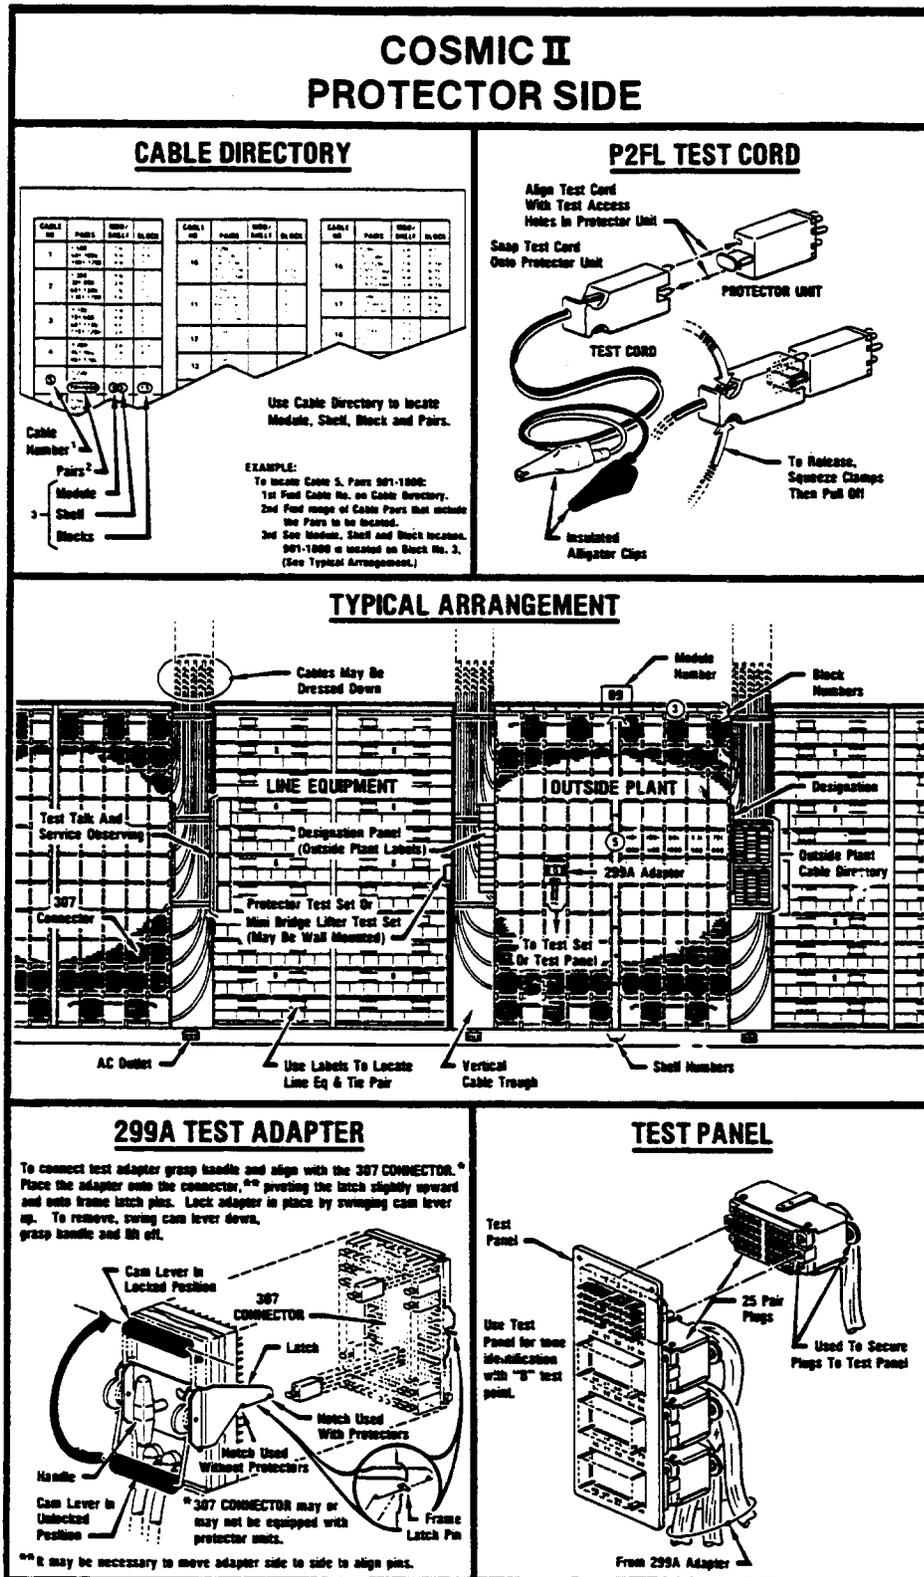

Figure 17—Frame Operations Decal — Protector Side
2.18 Protector Side for COSMIC II and IIA — This decal (Figure 17) depicts the test cords and